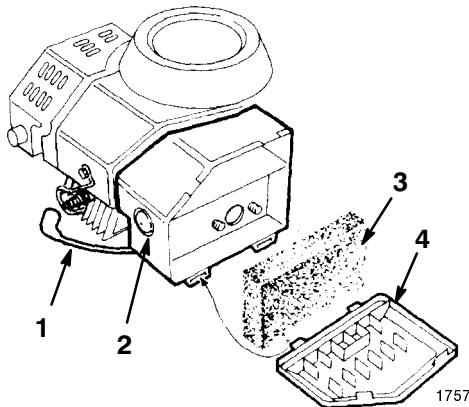

Figure 5
1. Insert the bottom tabs of the air cleaner cover into the slots (Fig. 5).
2. Rotate the cover upward and snap it into place (Fig. 5).
1. Connect the wire to the spark plug (Fig. 5).
3. Cover the hole in the center of the primer (Fig. 5) with your thumb and push it in once.